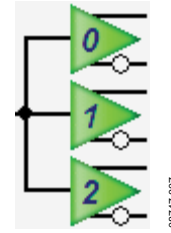

Figure 7. Driver Symbol
11. Power down unused drivers by clicking the numbered triangular symbol on the right side of the main window (see Figure 7), and then clicking **Power Down (Off)** in the output driver window (see Figure 21). Unused drivers that